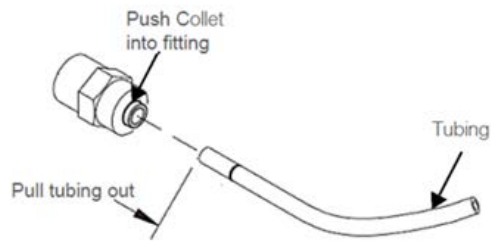

Figure 75. Ultrafilter Replacement (Only Upper Tubing Port is used)
- i. Disconnect the bottom inlet tube from black John Guest fitting UF filter using blue quick release tool. Press the connector (It is named as collet as shown in **Figure 75**) into the adapter and pull the tubing out.
- ii. Disconnect the top outlet tube in the same manner (see **Figure 75**).